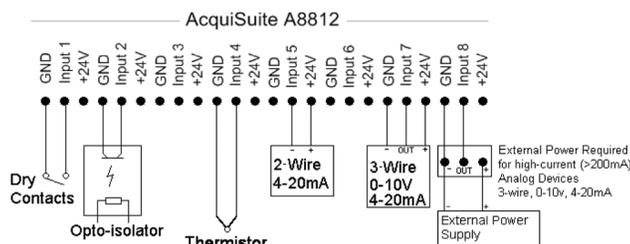

Figure 2: Wiring diagram
3. Optional: Connect any analog or pulse output sensors you may have. For analog sensors, 0...10V or 4...20 mA sensor types are allowed. The combined power consumption of all the analog sensors attached to the Model 3700 server must not exceed 200 mA. If more current is required, use an external power supply. See *Figure 2*.